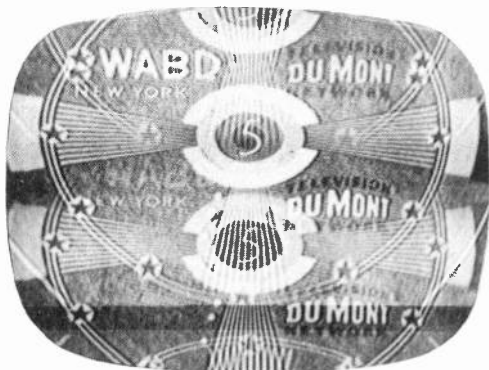

Fig. 6-P. Defect caused by trouble in vertical-hold control circuit.
**SYMPTOMS:** Pix has overlapped appearance with dark space at top or bottom of screen. Vertical hold critical. See Fig. 6-P.